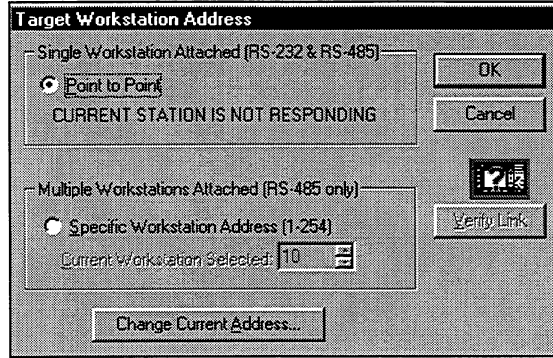

Figure 4-19. Target Workstation Address Dialog Box
2. Select the Workstation Address button if you need to change the target workstation address or verify the link between a target workstation and the development system workstation. This opens the Target Workstation Address dialog box, as shown in Figure 4-19.